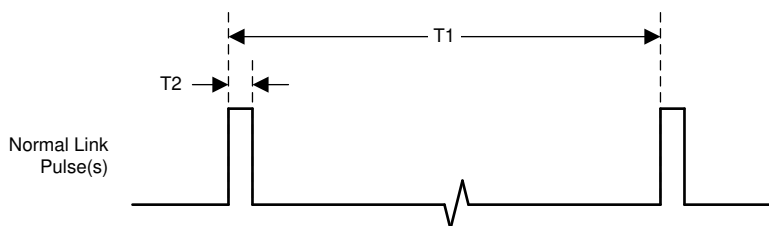

Figure 7-13. Normal Link Pulse(s) Timing
(1) Ensured by production test, characterization or design.
(2) See Figure 7-13.